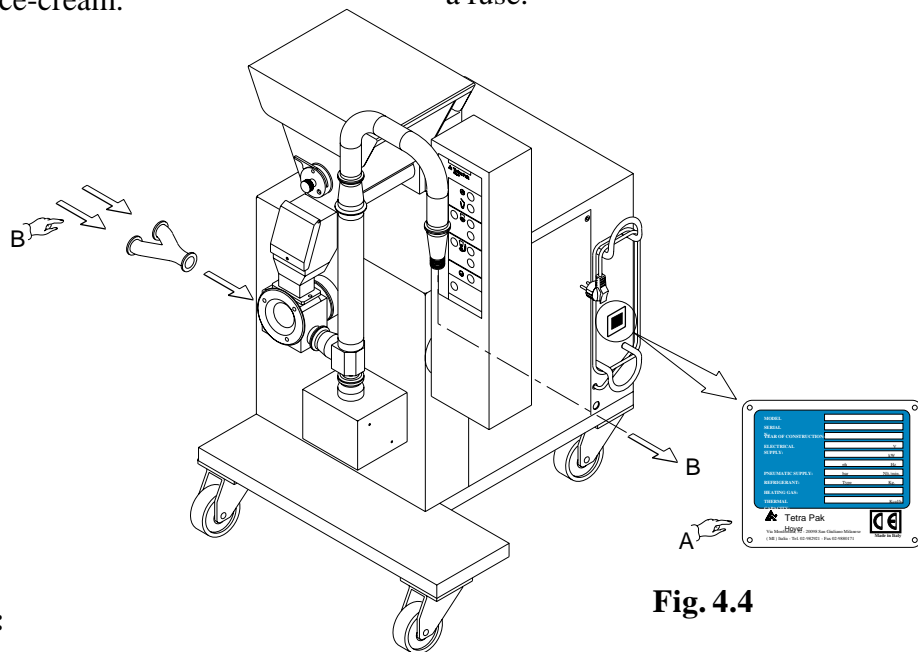

Fig. 4.4
- a. Position the machine at the place of production and check the nameplate data to ensure that the machine is compatible with the electrical power supply (*Pos.A, Fig.4.4*).
- b. Connect the ice-cream inlet and outlet pipes to the pump body (*Pos.B, Fig.4.4*).